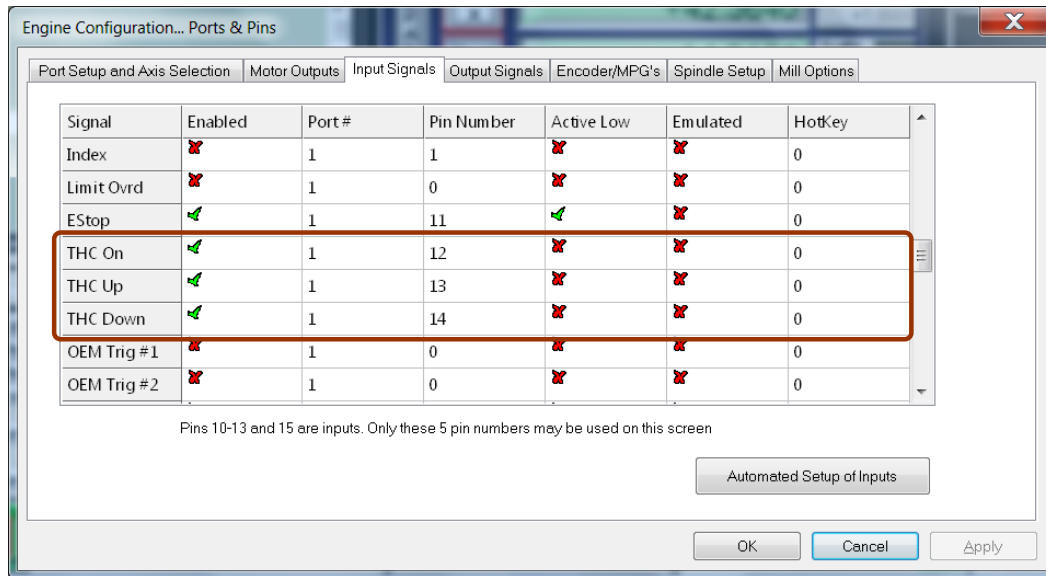

Figure 3 Configuration of THC input pins
For operation with external THC regulator it is required to setup port and pins for digital inputs THC On \(ARC\\_OK\), THC Up, THC Down (figure 3).
This option is useful if there is no possibility of bringing in an external **ARC\_OK** signal and **in that case it is needed to turn off THC\_ON signal in Ports&Pins settings (Figure 3) because ARC\_OK signal is internally generated.**
On the other hand, if that possibility exists, it is required to setup digital input for this signal in the same way like when using external THC regulator (Figure 3).
**Regarding the Ports & Pins dialog settings (figure 3), digital inputs THC Up and THC Down signals must be turned off as these signals are generated internally. Also, if option for internal detection of plasma arc is enabled, the input signal THC On should be turned off as well.**